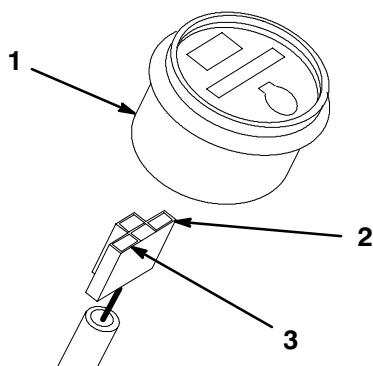

Figure 1
3. Attach the connector on the wire harness to the hour meter, making sure the positive terminal on the connector is connected to the positive terminal on the hour meter (Fig. 1).